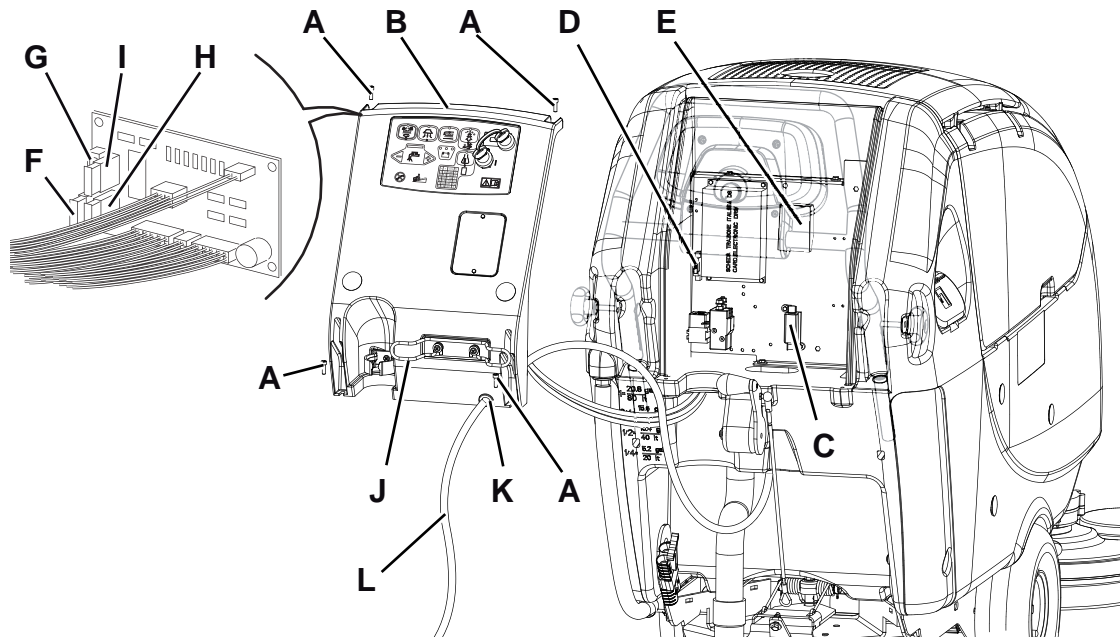

Figure 9
1. Disconnect the battery connector (12).
2. Move aside the recovery water drain hose (16).
3. Remove the battery charger cable (L, Fig. 9) from the cable holder (J).
4. Remove the screws (A) and carefully move aside the panel (B) by disengaging the grommet (K) from its housing on the panel (B).